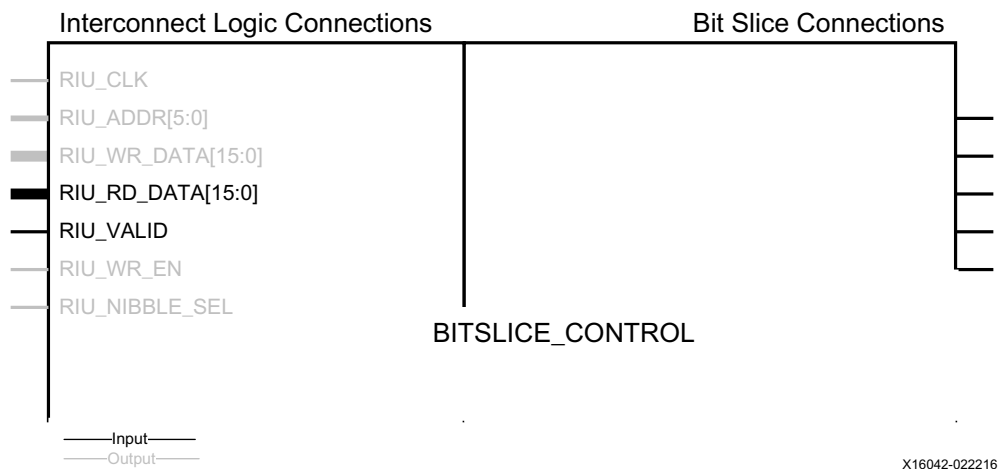

Figure 2-73: RIU in the BITSlice_CONTROL
Using the register interface unit (RIU), the BITSlice_CONTROL primitive can be turned into a processor peripheral block. The RIU interface is a set of 64 read/write, 16-bit registers, acting as a dynamically accessible processor peripheral interface providing full control over every function and feature of a nibble: control of all input, output, 3-state, and all delay lines (input, output and quarter), voltage and temperature (VT) tracking, clocking options, and built-in self-calibration (BISC). The RIU interface is represented in the BITSlice_CONTROL component as shown in Figure 2-73.